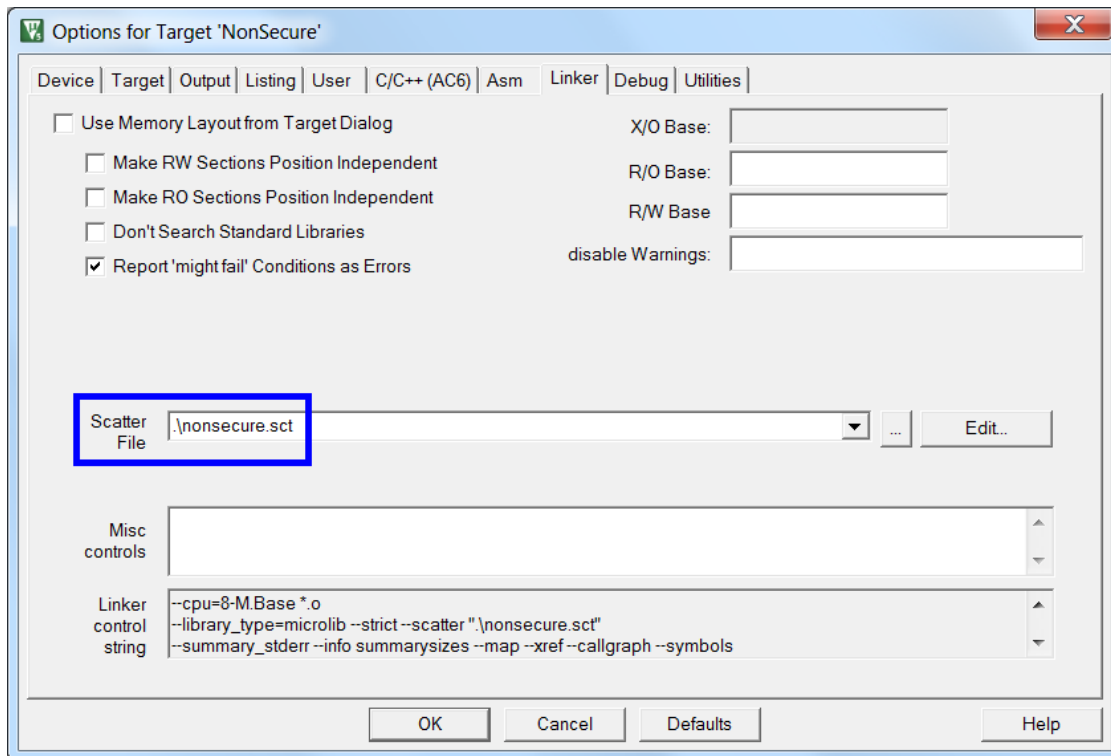

Figure 3-3 Specify Scatter File in Keil® MDK
- Click [Options for Target – Linker] as shown in Figure 3-3.